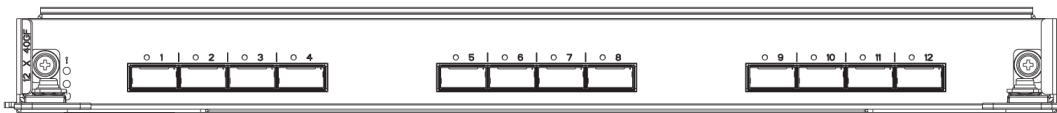

FIGURE 3 12x40G line card
- 12x40G line card module – Ports are numbered from 1 through 12 from left to right when installed in the switch. Refer to Figure 3.